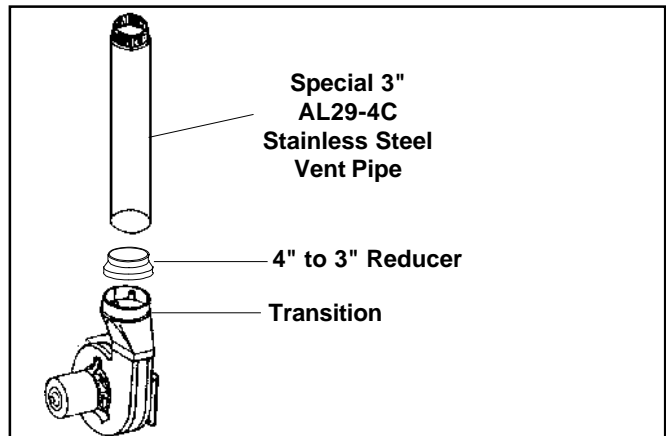

Figure 13. G6RK Reducer Installation
5. Install and seal a 4" to 3" reducer to the transition. (See Figure 13.) Attach the new high temperature vent pipe to the reducer.